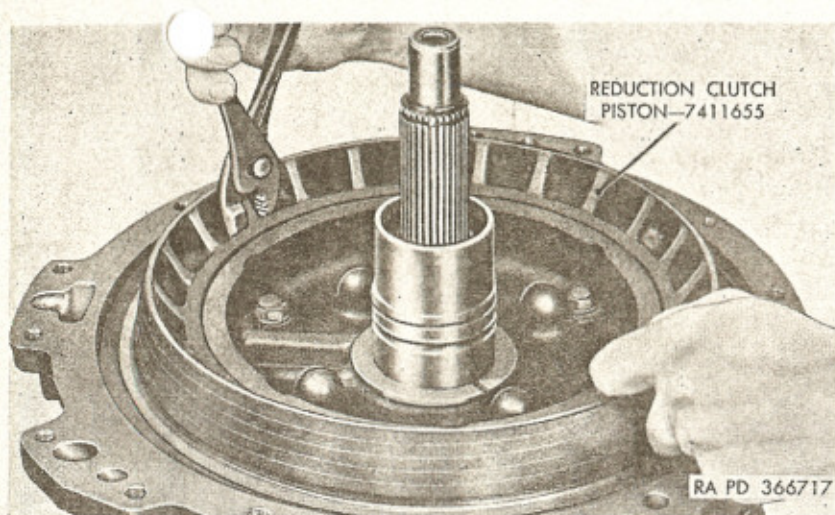

Figure 27. Removing reduction clutch piston (303M).
h. Remove reduction clutch piston (fig. 27), working gently out with pliers and fingers. The piston is mounted on four guide pins and cannot be rotated. Remove seal from reduction clutch piston.